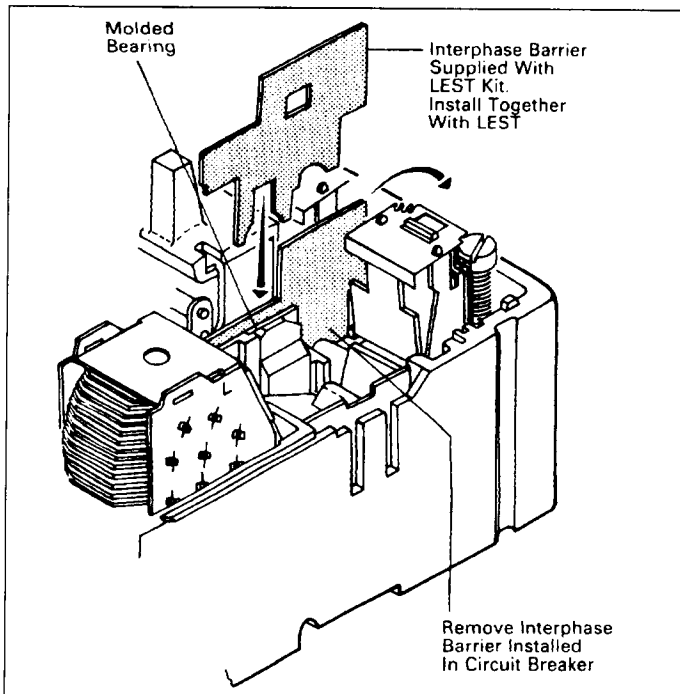

Fig. 2-4. Position of Interphase Barrier and Molded Bearing
- a. Remove interphase barrier between accessory mounting cavity and operating mechanism as shown in Fig. 2-4. For HMCP, remove outer portion only of 2-part interphase barrier.